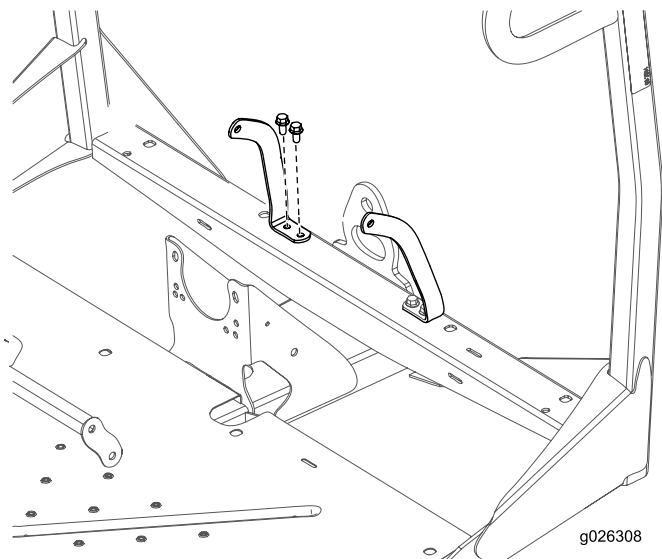

Figure 9
4. Secure the left and right seat belt anchor to the front frame with 4 bolts (3/8 inch) and 4 nuts (3/8 inch) (Figure 9).